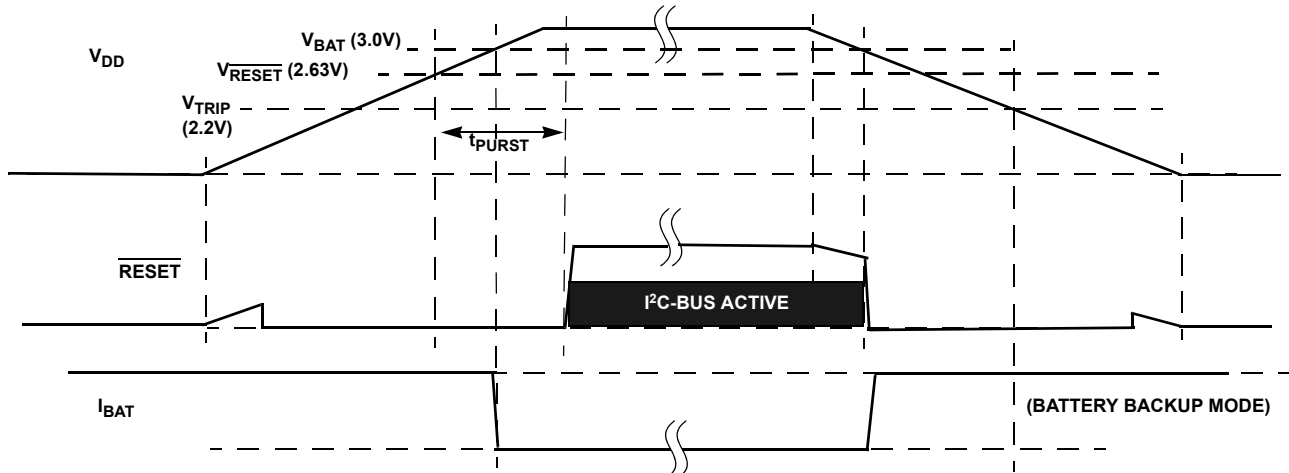

FIGURE 30. RESET OPERATION IN MODE D
- Mode D - In this mode, the selection bits indicate switchover to battery backup at $V_{DD} < V_{BAT}$, and no I²C communications in battery backup. This mode is unique in that there is I²C communication as long as V_{DD} is higher than V_{RESET} or V_{BAT} , whichever is greater. This mode is the safest for guaranteeing I²C communications only when there is a Valid V_{DD} (see Figure 30).